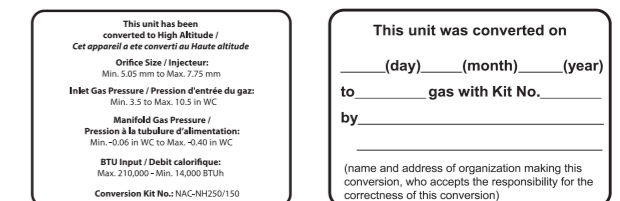

Figure 11. Proper Placement of High Altitude Conversion Labels
13. Once the CO₂ or offset values have been confirmed, apply the included conversion stickers to show that the appliance has been converted to High Altitude. Place these labels adjacent to the rating plate as shown in Figure 11.